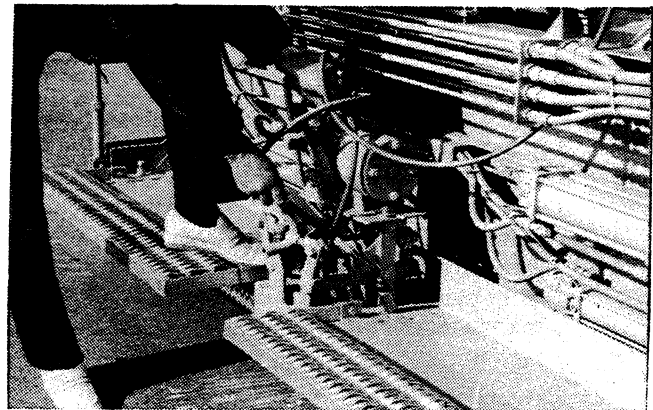

Figure 4-4 – Lighting Burner
4. Direct ignitor flame into hole in screed cover and turn burner valve to "on" position. When the burner is lit, follow same procedure for burner on opposite side as shown in Figure 4-4.